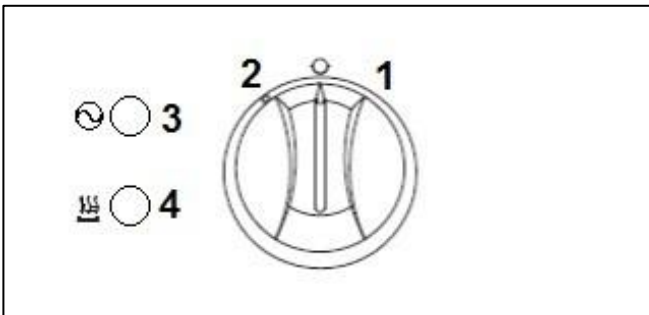

Figure 2 – E3840/E3840F Control Panel
2.3.1 E3840/E3840F Fryer Control Panel (See Figure 2)
3. Start Button: Fryer has a start button. Once operator has established there is sufficient oil in the pan, pushing will engage the controller. (See fig. 2 or 3)